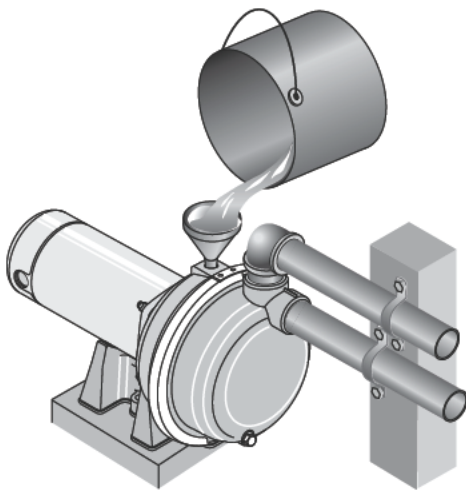

Figure 5 - Fill Pump Before Starting
- Step 3. Fill pump and suction pipe with water (Fig. 5).